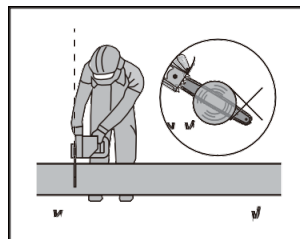

Figure 3
- When the log is supported along its entire length (as shown in Figure 3), cut from the top (overbuck).